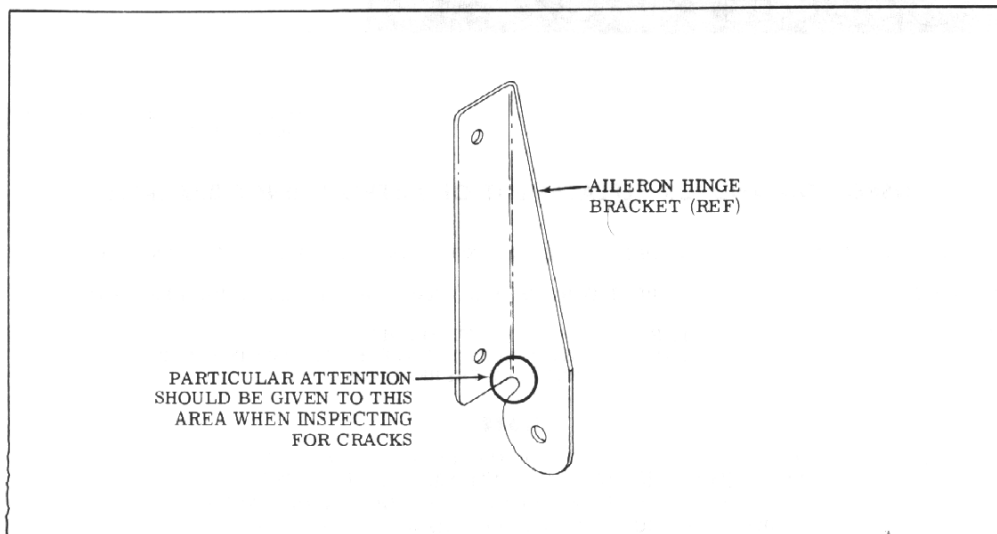

Figure 1.
1. Visually inspect all aileron hinge brackets in area shown in Figure 1. For possible cracks.